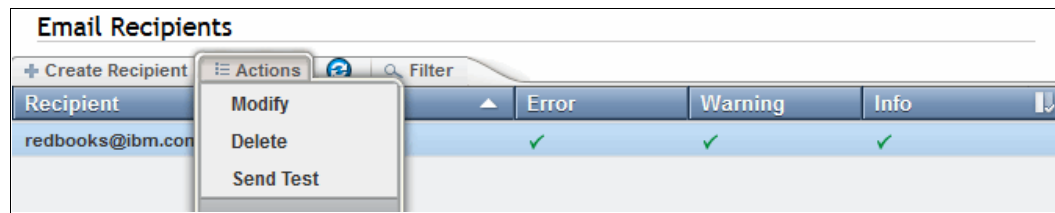

Figure 4-28 Email Recipients Actions menu
5. After a recipient is created, you can then modify the user, delete the user, or send a test email to the user from the Actions menu, as shown in Figure 4-28.